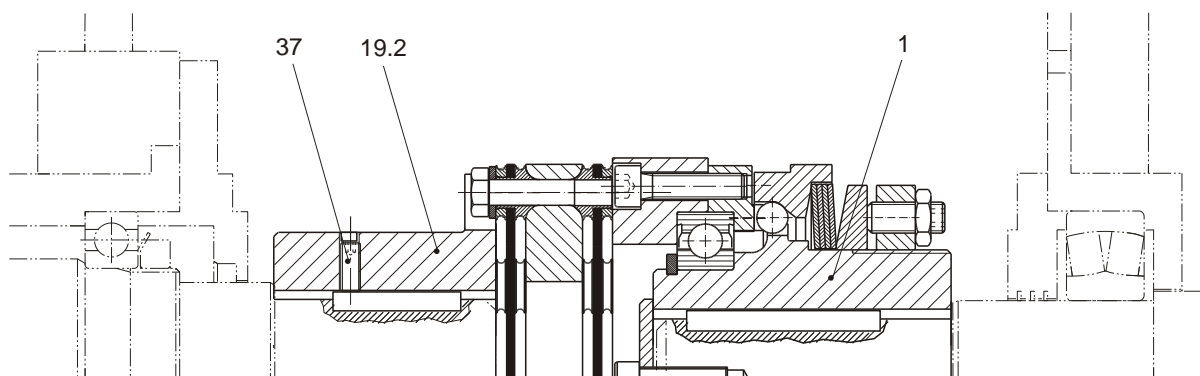

Fig. 6
- Locking set screw (37) for hub (19.2), see Fig. 1 on page 3, Fig. 6 on page 11 and table 11 on page 7.